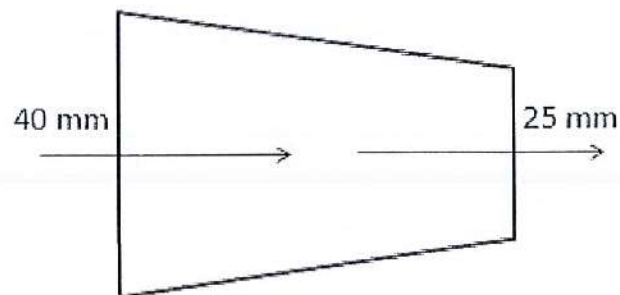

Figure 4 / Rajah 4
- c) As in **Figure 4**, the raw oil through a pipe with a diameter of 40 mm and entered a pipe with a diameter of 25 mm. The volume flow rate is at 3.75 L/s. Calculate the flow velocity of both pipes and the density of raw oil if the mass flow rate is at 3.23 kg/s.